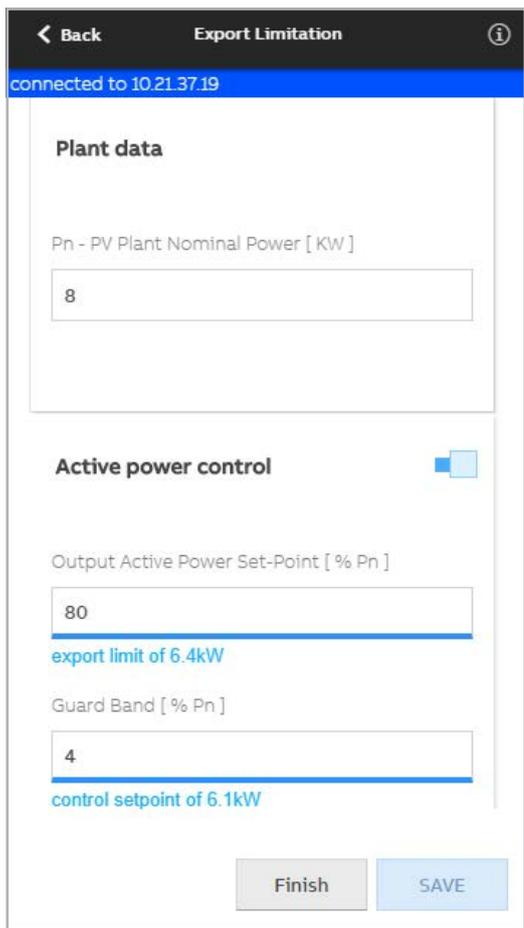

Figure 19 - Export limitation settings
- Figure 19 - Export limitation settings